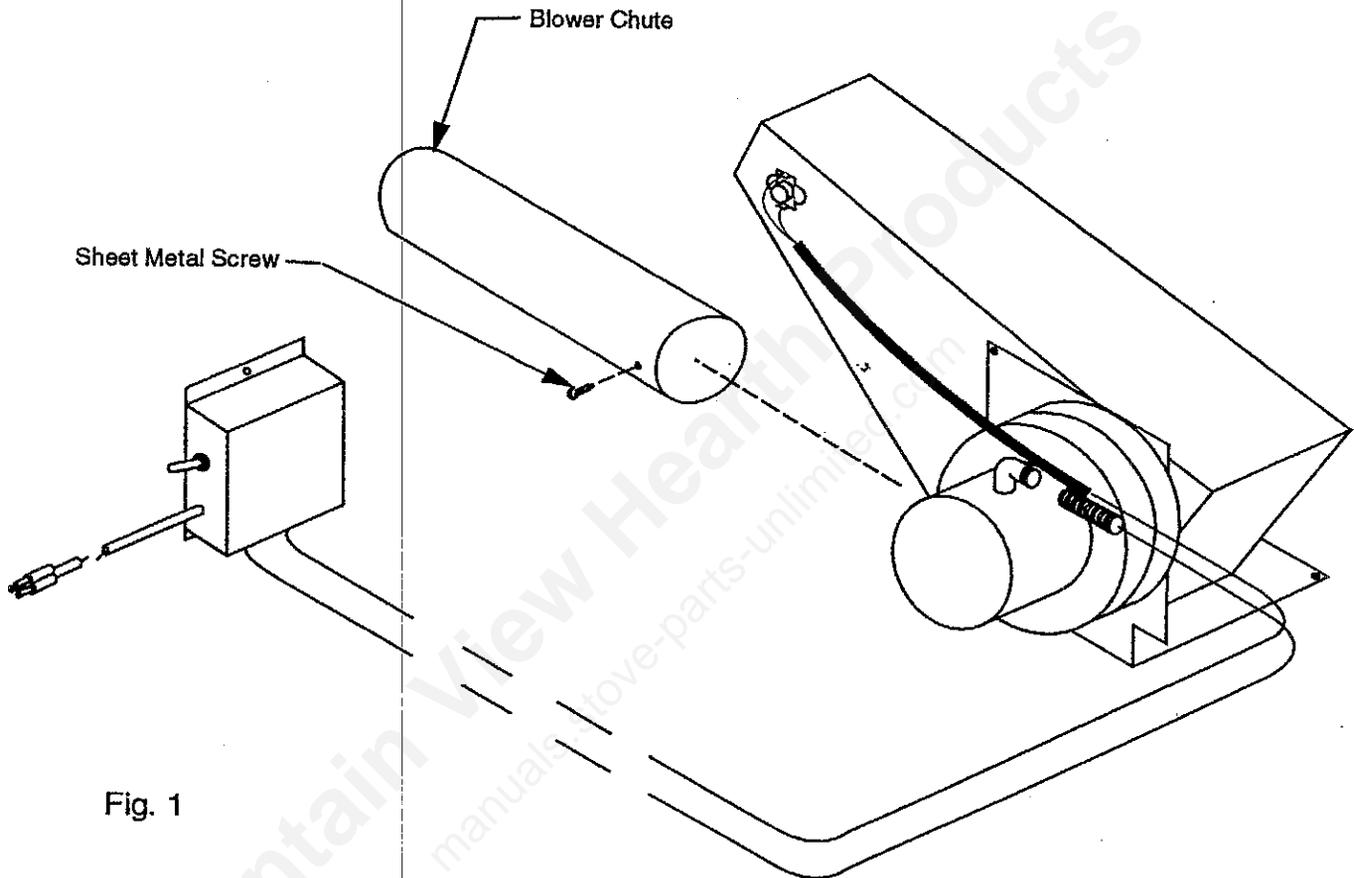

Fig. 1
Your Blower Kit is shipped in two parts: (1) The Main Blower Assembly, and (2) The Blower Chute. To attach the blower chute to the blower assembly, simply slide the blower chute over the blower opening and secure the blower chute with the sheet metal screw provided in the parts bag. (See Figure 1 Below)